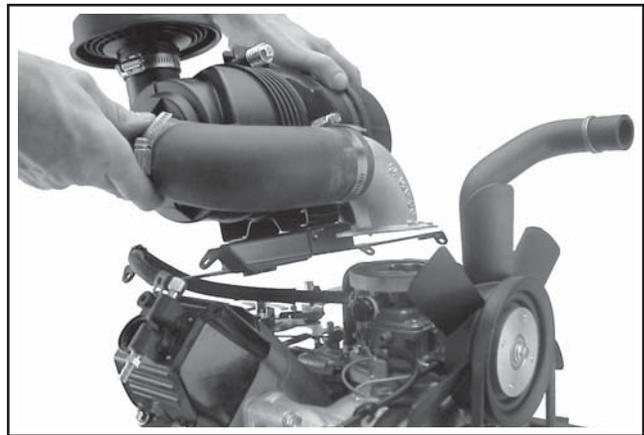

Figure 11-103. Installing Air Cleaner Assembly.
2. Set the air cleaner/mounting bracket assembly, with the hose and elbow attached, in position on the engine. Align all of the mounting holes. Start and **finger tighten** each of the mounting screws. Make sure the fuel line is outside of the main bracket when installed. See Figures 11-103 and 11-104.